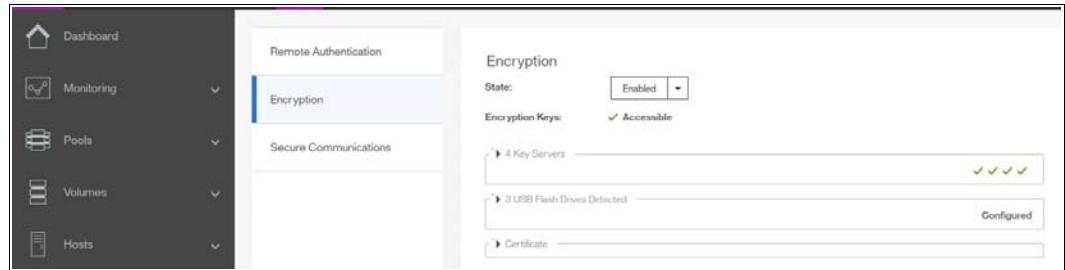

Figure 13-59 Encryption enabled with two key providers available
3. You can confirm that encryption is enabled, as well as verify which key providers are in use, by going to **Settings** → **Security** → **Encryption**, as shown in Figure 13-59. Note four green check marks indicating that the master access key is available on all four SKLM servers.